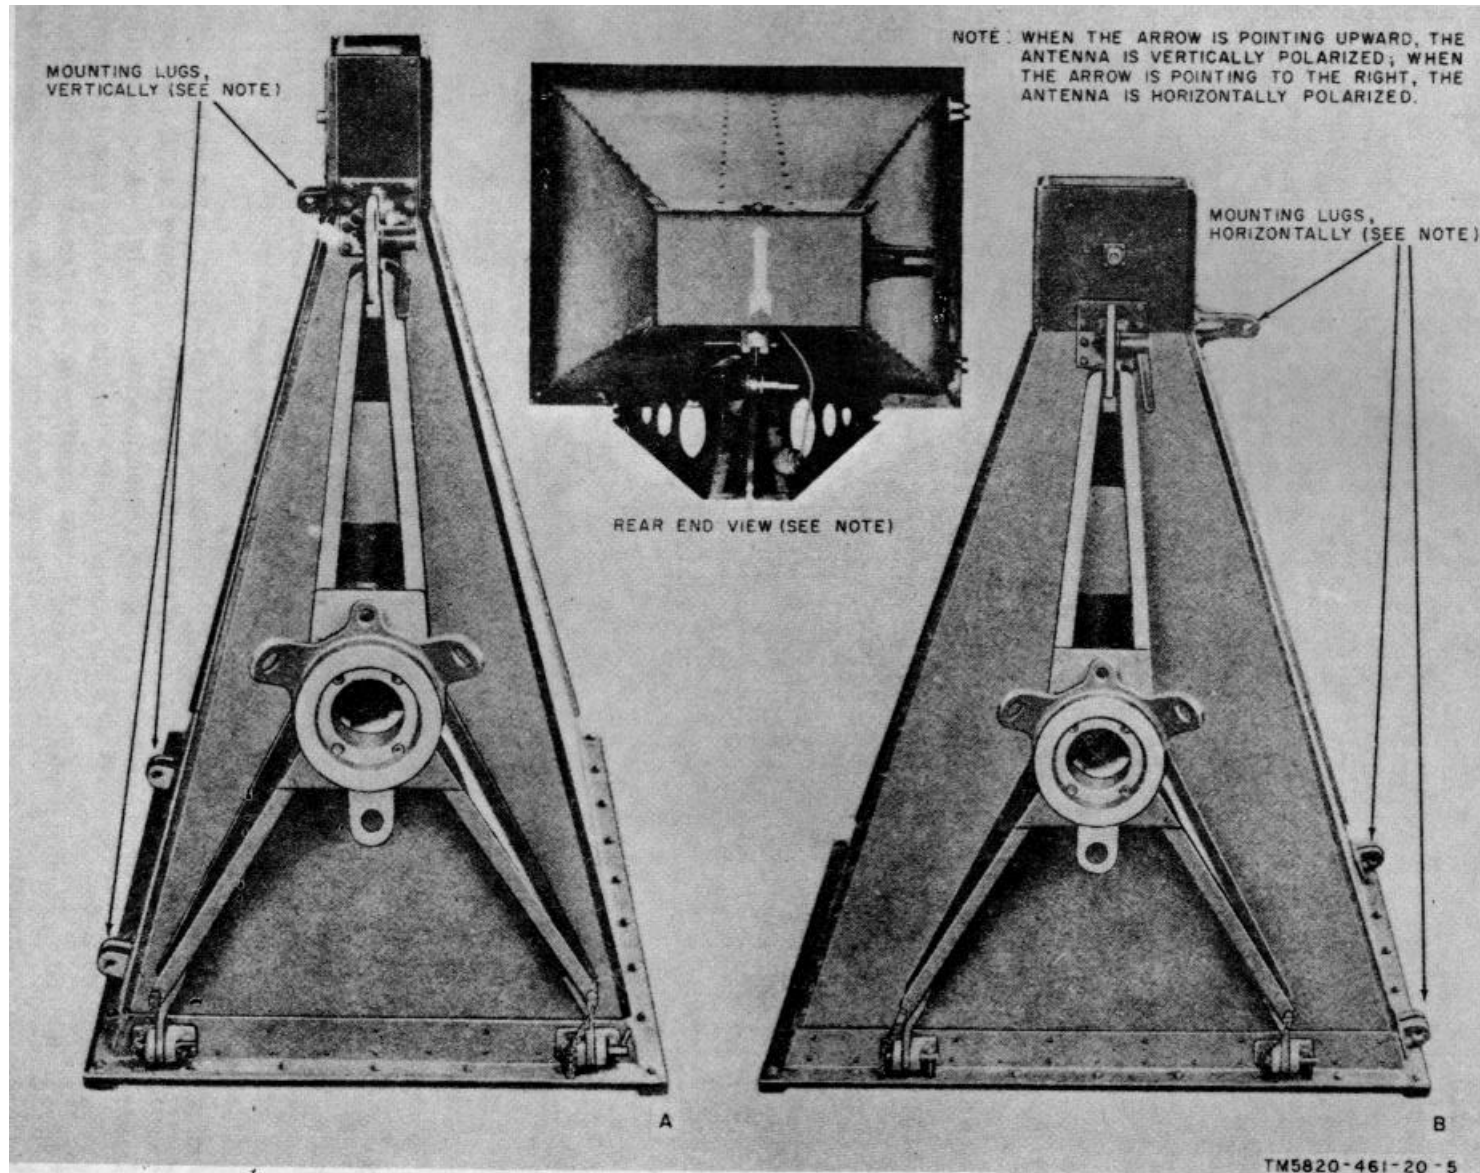

Figure 2-4. Antenna AT-903/G, mounting details.
(figs. 2-4 and 2-5)
Antenna AT-903/G is provided with a removable three-legged mounting frame (fig. 2-4), which is attached to the antenna horn for either horizontal or vertical polarization, and also provides for adjustment of
a. *Polarization Adjustment* (fig. 2-4). Note that for vertical polarization the mounting
The radius rope has a loop at each end and a loop where the 30-foot and 52-foot sections join (A, fig. 2-4).